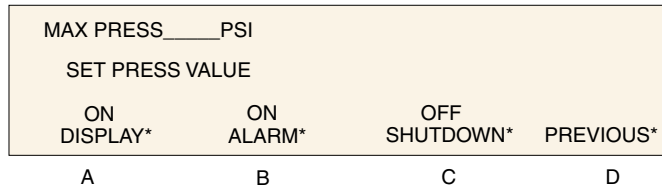

Figure 3-9 Limits setpoint (Max Press) menu
1. Press LIMITS. To display the Limits menu, enter the number of the limit you wish to program. One of five limit setpoint menus will appear: MAX PRESS, MIN PRESS, MAX FLOW, MIN FLOW, or FLOW LIMIT. The MAX PRESS limit setpoint menu is shown in Figure 3-9.